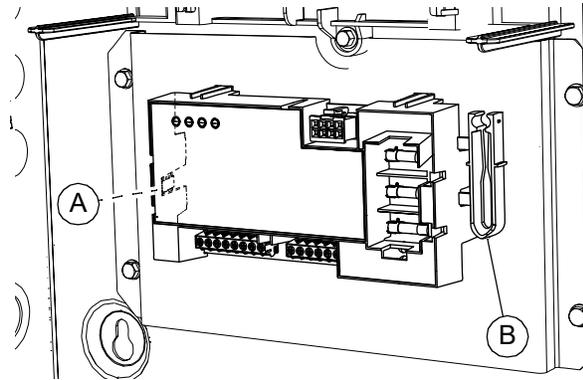

Figure 4-3. SACM Test and Fuse Removal Tool
See Figure 4-3. A TEST pushbutton (A) is provided on the left side of the SACM to test the operation of the load shed functions. The TEST button will work when the ATS is in the Utility or the Generator position.
See Figure 4-3. A fuse removal and installation tool (B) is included in the SACM housing. One spare fuse is included with the Owner’s Manual.